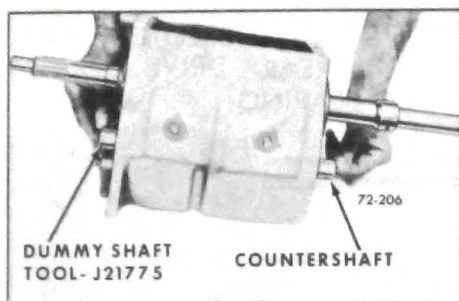

Figure 72-206 - Removing Countershaft With J-21775
11. Using countershaft alignment Tool J-21775, drive countershaft out rear of case. See Figure 72-206.